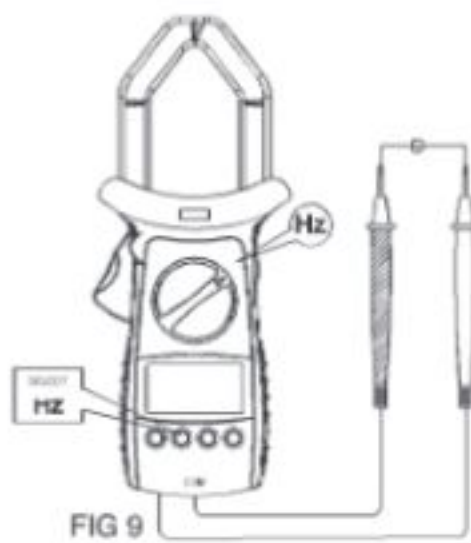

FIG 9
G. Measuring Frequency (See Figure 9)